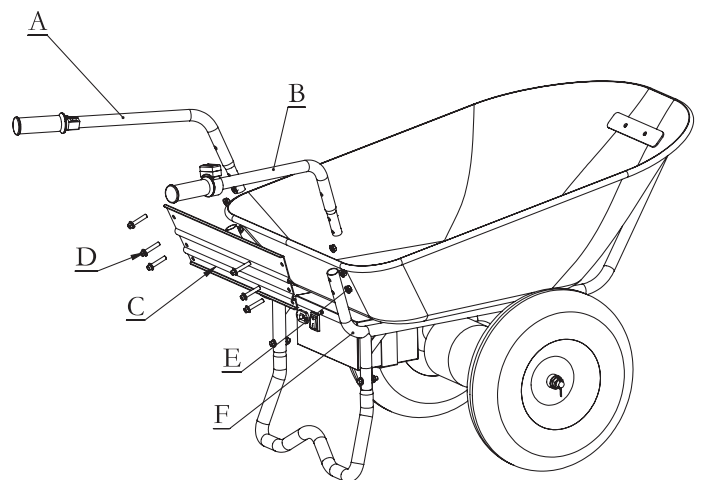

Figure 4
Fix the left handle-bar(A), the right handle-bar(B) and the handle-bar connecting plate(C) on bucket bracket(F) with three bolts M8x40(D) and three nuts M8(E). When installing, first insert all M8X40 bolts into the fixing holes, and then fix the nuts. (See Figure 4)